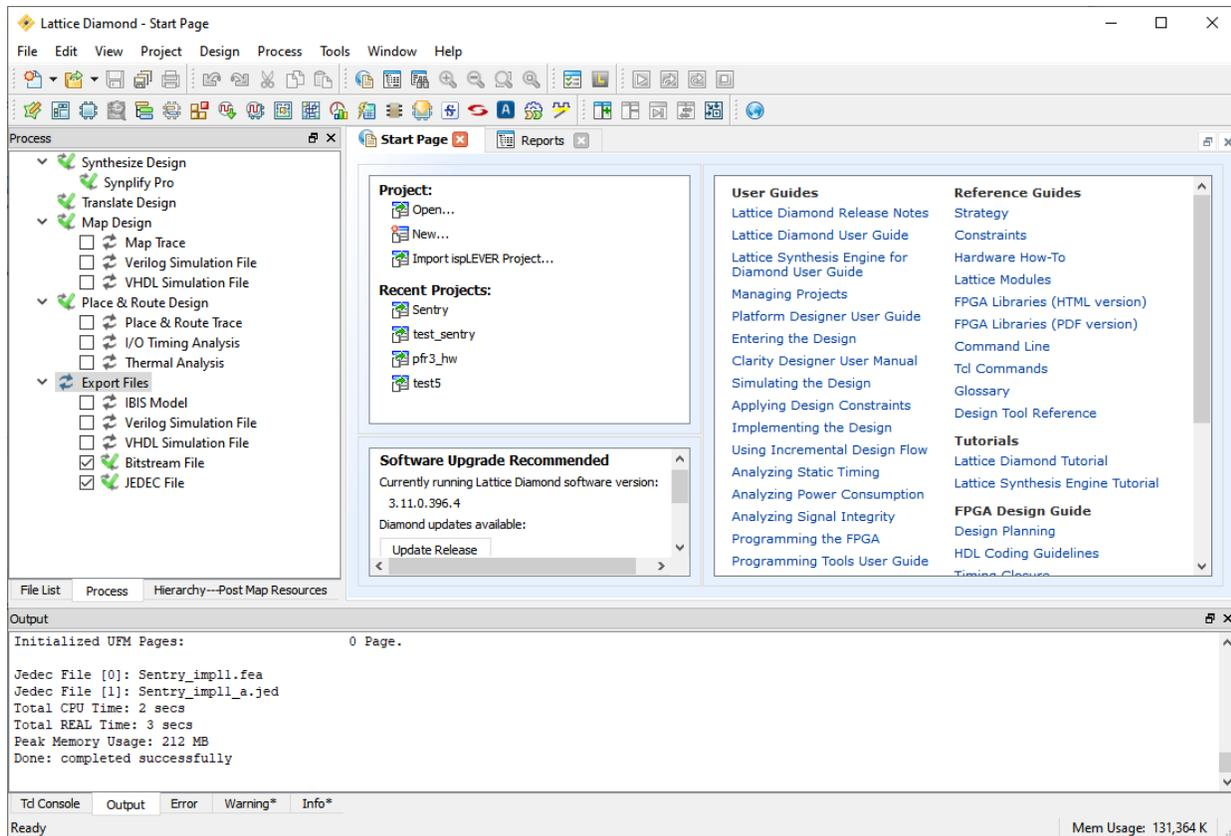

Figure 2.56. Generate Programming Files
- Switch to **Process** view of the Diamond project (Figure 2.56). Make sure at least one programming file (IBIS Model, Verilog Simulation File, VHDL Simulation File, Bitstream File, or JEDEC file) is selected in the **Export Files** section. Available programming files can be different upon specific device included.